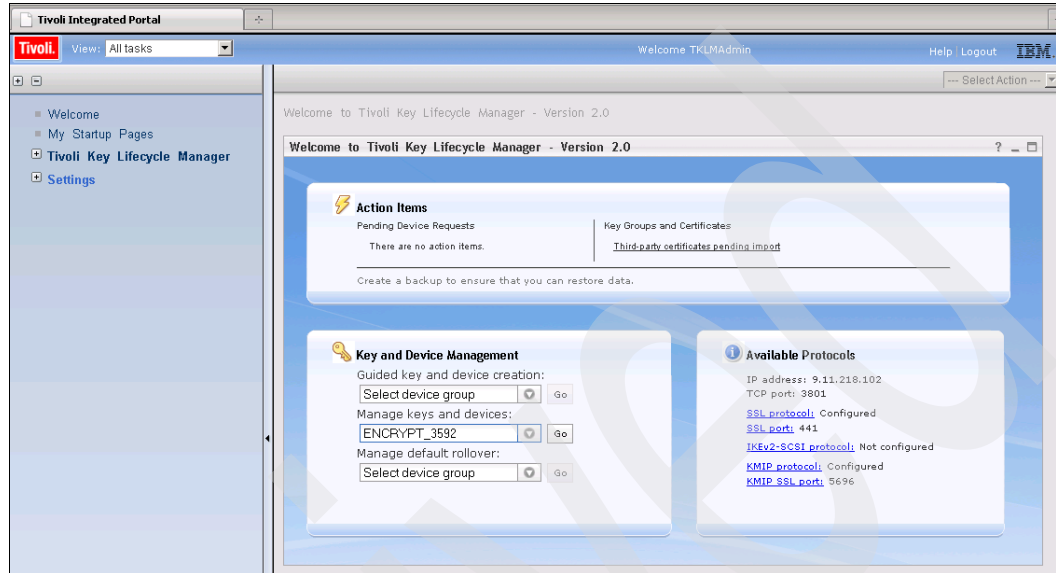

Figure 9-62 Welcome panel with 3592 device group selected
2. On the Welcome panel, select the 3592 device group from the **Manage keys and devices** drop-down list and click **Go** (Figure 9-62).